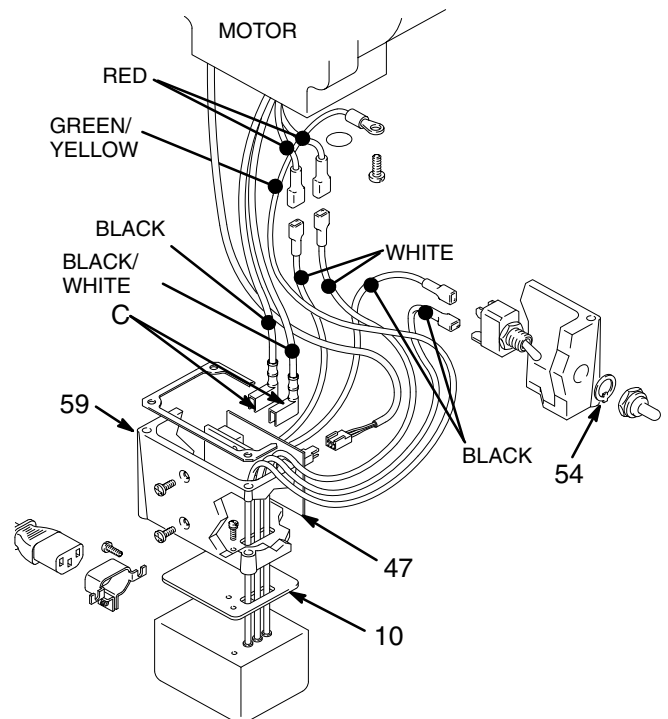

Fig. 15
2. Remove the junction box screws (56). Lower the junction box. Disconnect the two leads (C) from the motor to the board (47). See Fig. 15.